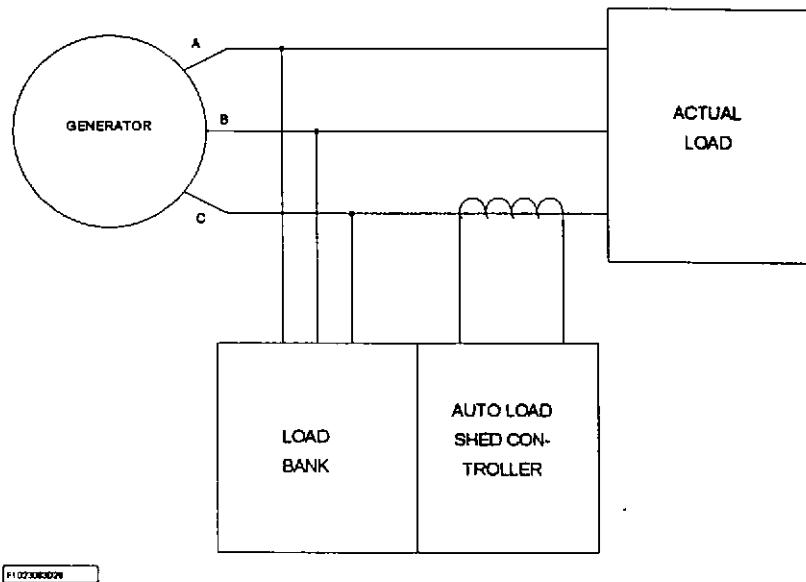

Figure 3-1
4. When an automatic Controller is included with the Load Bank, installation of the current transformer on the main power bus as shown in Figure 3-1 is required. Wire the current transformer into the control circuitry as shown on the provided schematic.